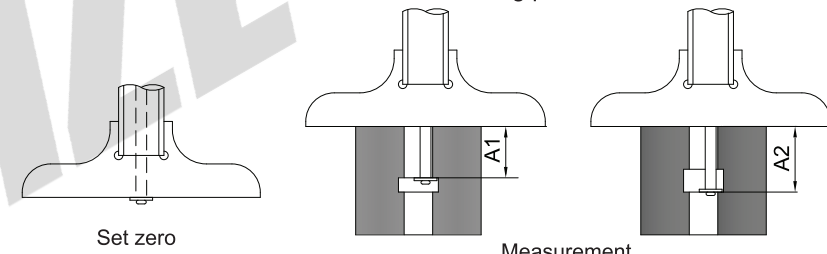

Fig.3
---Install disk point: pull beam to make the point's measuring face contact base plane and press '0' button to set zero. Measure depth A1 and A2 (Fig.3). The disk point's thickness is 1mm, the A2 result is the reading plus 1mm.